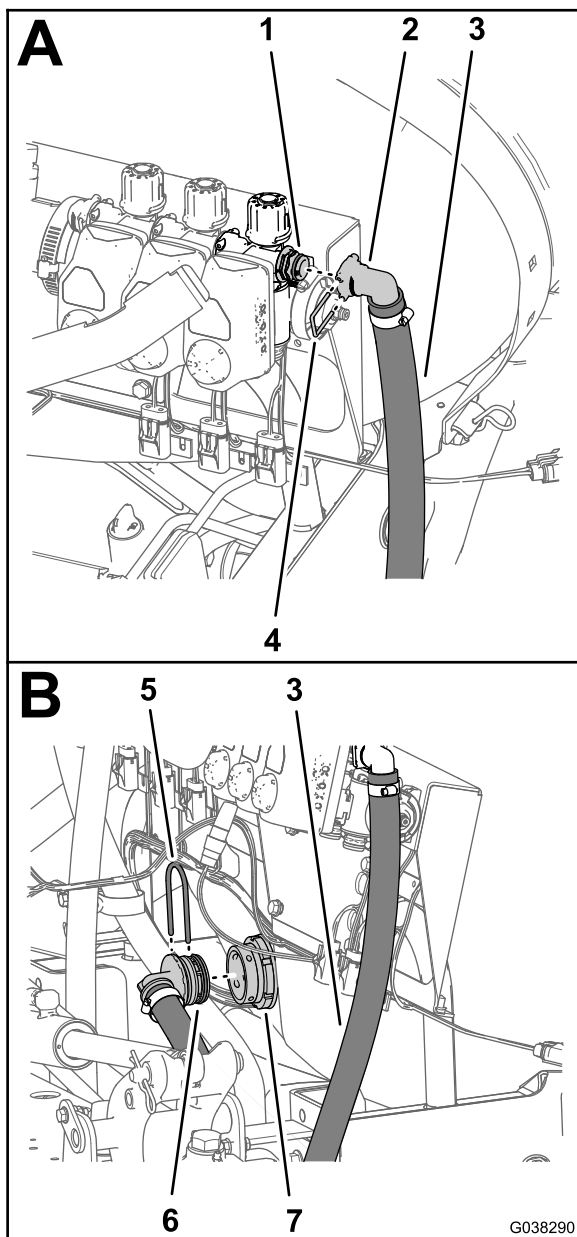

Figure 77
- 1. Assemble the 90° quick-connect fitting of the section bypass hose—2.5 x 146 cm (1 x 57-1/2 inches) onto the quick coupling of the bypass manifold with the retainer (small) that is supplied with the section bypass hose (Figure 77).
3. Assemble the 90° barbed fitting of the section bypass hose into the bulkhead fitting (Figure 77).
4. Secure the 90° fitting to the bulkhead fitting (Figure 77) with the retainer (large) that you removed in step 1 of Removing the Section Bypass Hose (page 16).